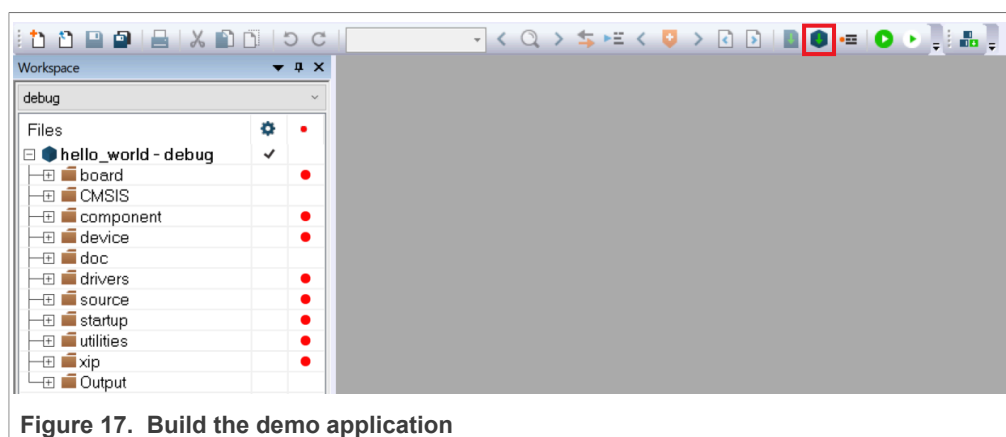

Figure 17. Build the demo application
3. To build the demo application, click **Make**, highlighted in red in Figure 17.